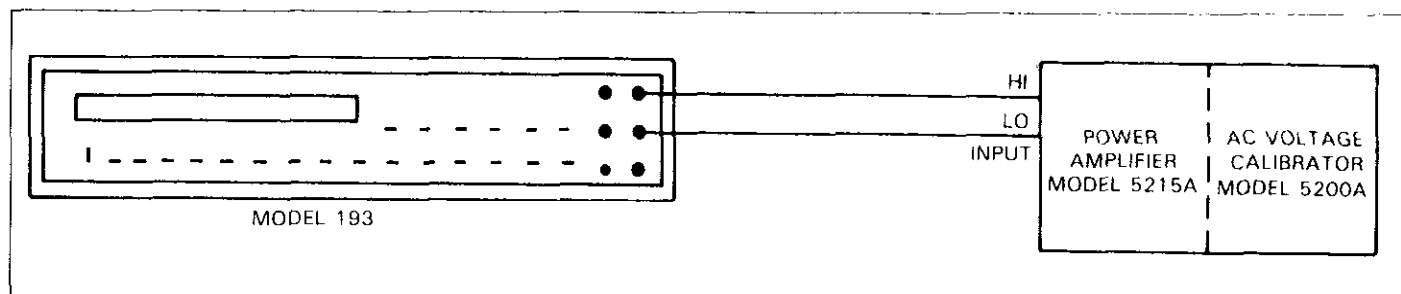

Figure 4-2. Connections for TRMS AC Volts Verification
2. Connect the AC calibrator to the Model 193 as shown in Figure 4-2.